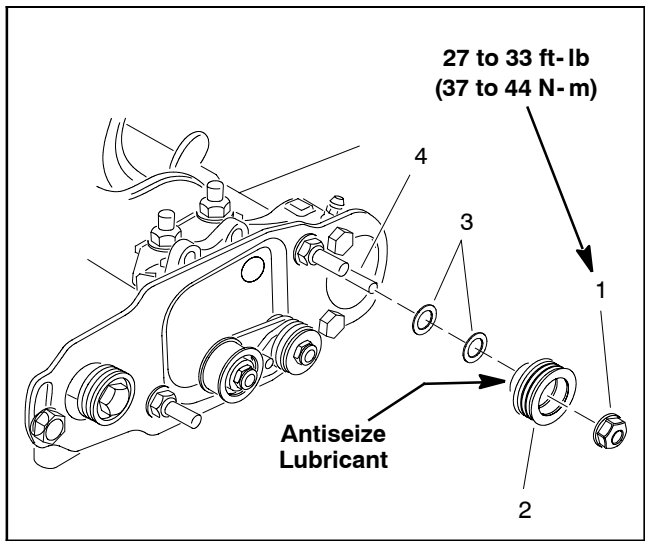

Figure 52
B. If necessary to align pulleys, remove driven pulley from brush shaft and add or remove flat washer(s) until drive and driven pulleys are correctly aligned (Fig. 52).
5. Install cover (item 20). There should not be a set screw installed in the bottom of the cover.